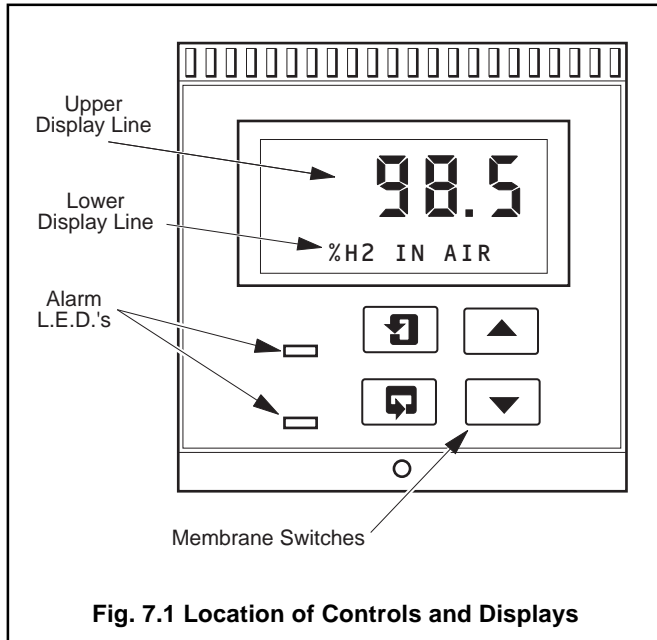

Fig. 7.1 Location of Controls and Displays
7.1 Displays – Fig. 7.1
7.2 Switch Familiarization Fig. 7.1 and 7.2